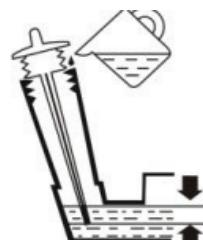

Fig.17
2. Loosen the dipstick and read the oil level. See fig 17
See fig 17
4. If necessary fill with oil up to the FULL mark .See fig.17.